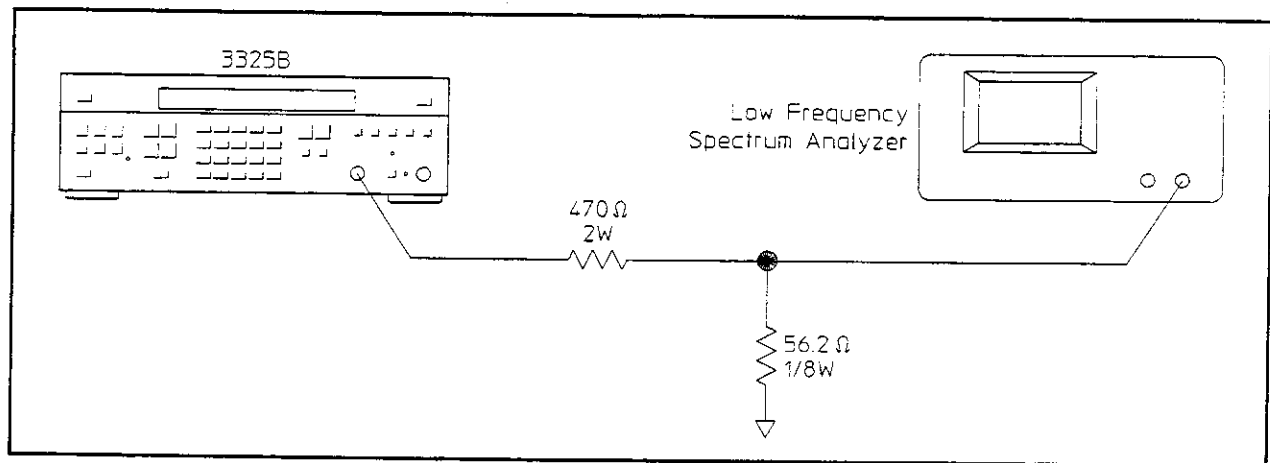

Figure 4-6. Harmonic Distortion Verification (High Voltage Output).
- i. Connect the HP 3325B signal output to the low frequency spectrum analyzer high impedance input (see figure 4-6).